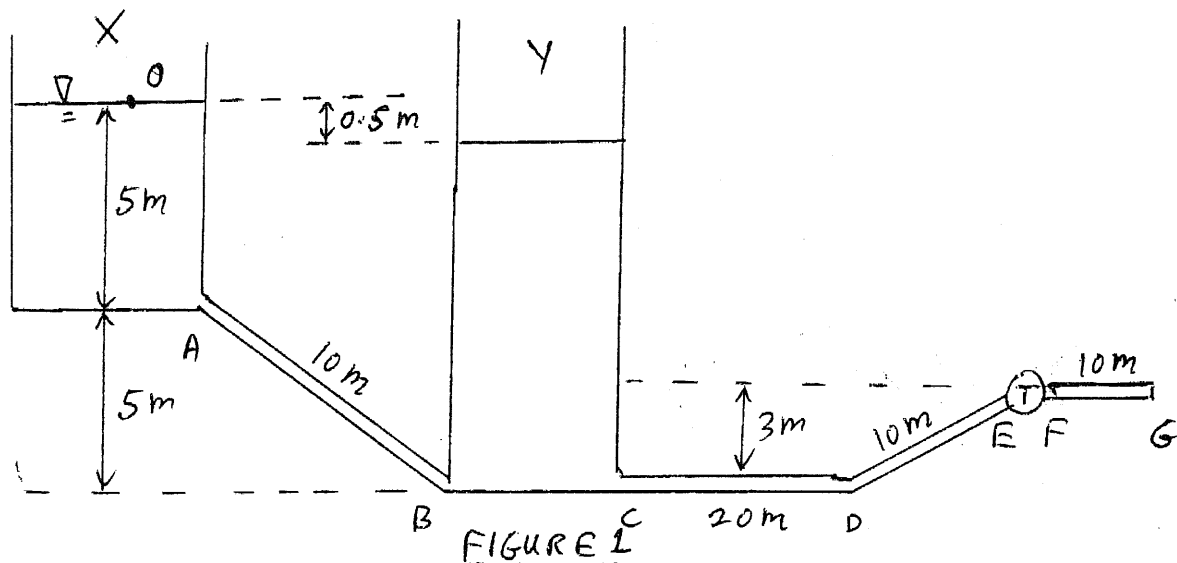

FIGURE 1
1) Water (density  $1000 \text{ kg/m}^3$ ) flows from Tank X (of cross-section area  $10 \text{ m}^2$ ) to Tank Y (of cross-section area  $10 \text{ m}^2$ ) through the pipe AB as shown in Figure 1. Water flows out of Tank Y through the pipeline CDEFG and is discharged to the atmosphere at G. A turbine, of efficiency 90%, is located between E and F. The lengths of the pipes AB, CD, DE and FG are 10 m, 20 m, 10 m and 10 m, respectively. All the pipes have a diameter of 2.5 cm and a friction factor of 0.01.